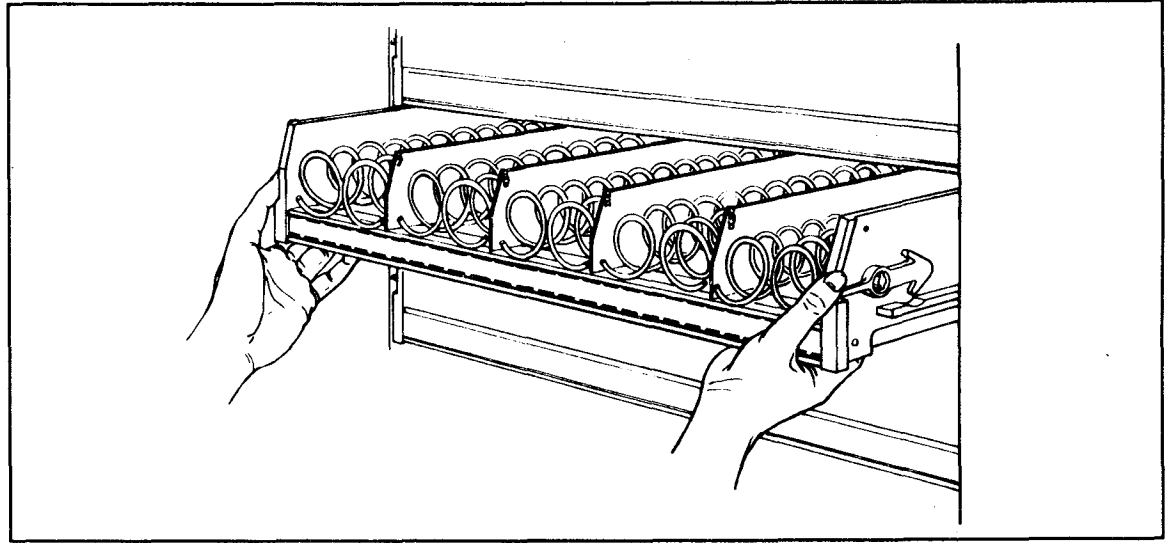

Figure S-16a
* Lift the Tray until it is parallel to the floor. See Figure S-16a.